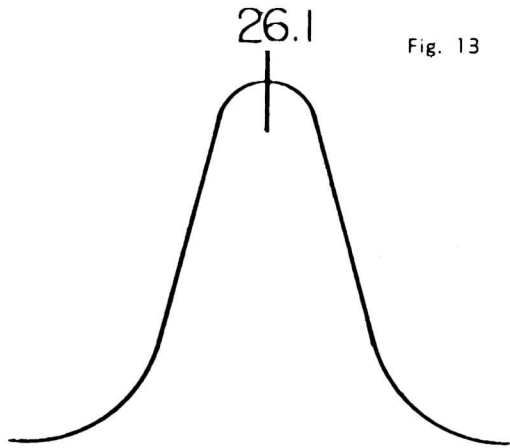

Fig. 13 SOUND IF AND DETECTOR RESPONSE
- Adjust T100 top, T100 bottom and T101 bottom to produce a response curve similar to that shown in Figure 13, with the 21.6 Mc marker located as shown.
- 14— Adjust T101 top to locate the 21.6 Mc marker in the center of the discriminator "S" curve as shown in Figure 13. Some dissymmetry in the non-linear portions of the "S" curve will probably appear, due to AGC action. Do not attempt to correct this dissymmetry with the T101 top adjustment.